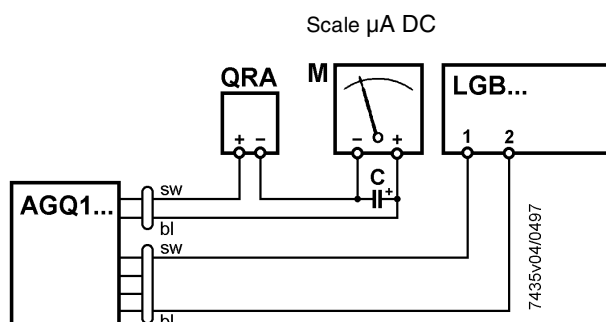

Fig. 20
- Check the detection photocell, clean it and adjust the position if needed and, if necessary, replace it. If in doubt, check the detection circuit after the burner has been restarted, following the diagram in Fig. 20.
See the diagram in Fig. 20 to measure the detection current. If the signal doesn't suit the suggested value, verify the electric terminals, the cleaning of the combustion head and the position of the photoelectric cell and replace it if required